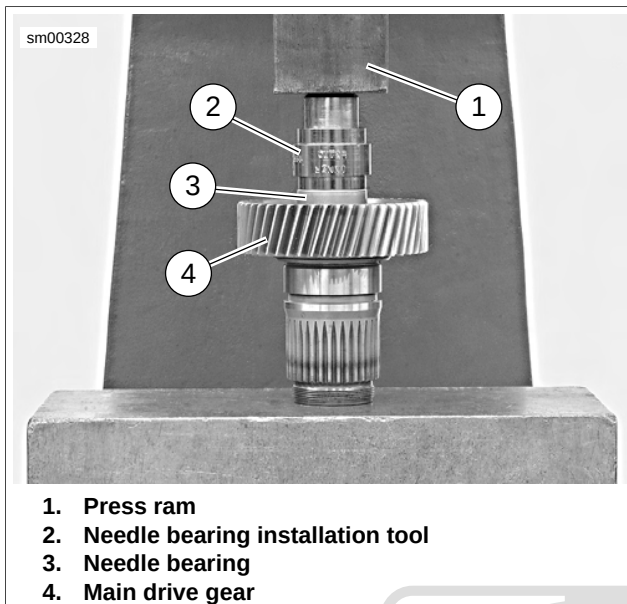

Figure 6-71. Pressing Inner Needle Bearing Assembly into Main Drive Gear
2. See Figure 6-71. Place main drive gear (4) on press bed with gear end facing up.
3. Place needle bearing (3) squarely into end of drive gear. Insert installation tool (2) with end stamped "INNER" facing needle bearing.